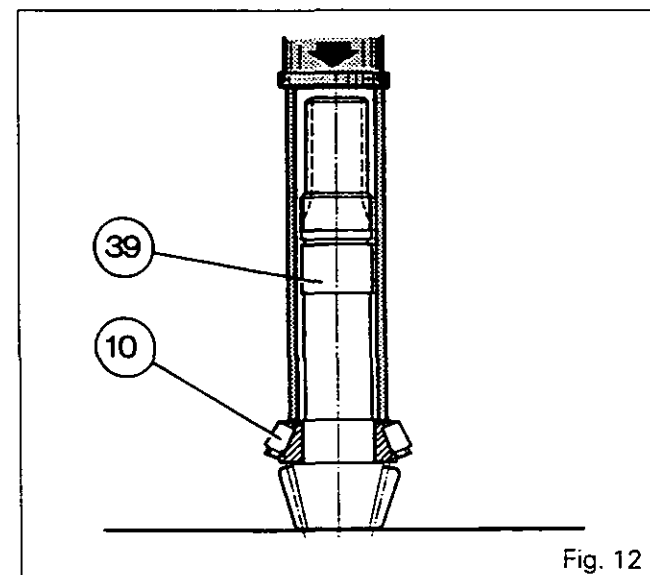

Fig. 12
41. Fit the cone fully home against the shoulder on the bevel drive pinion, using a press and a suitable fixture (Fig. 12).
42. Place the shims (8), ensuring the previously calculated thickness, in the casing.
43. Fit the cup (9) using a suitable fixture.